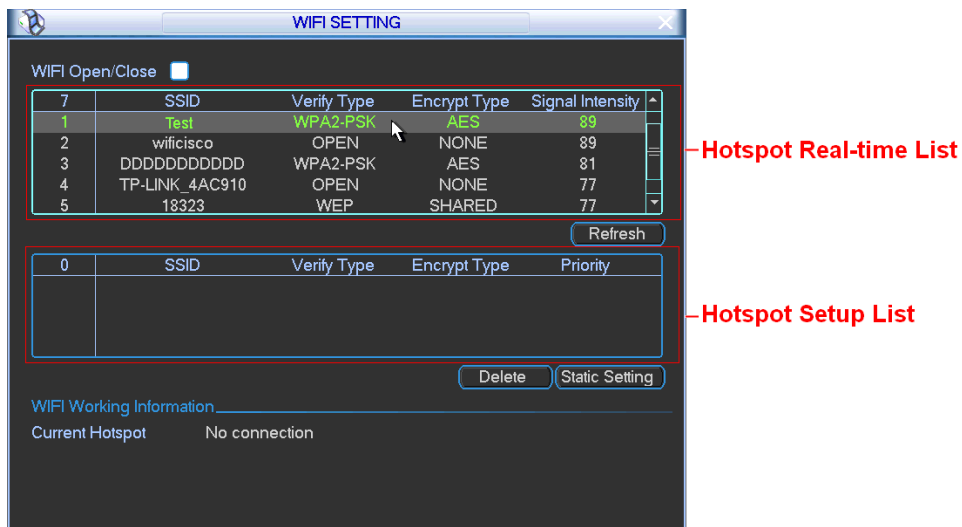

Figure 4-24
The WIFI interface is shown as below. See Figure 4-24.
- In Figure 4-24, click Refresh button to view the entire WIFI signals available.